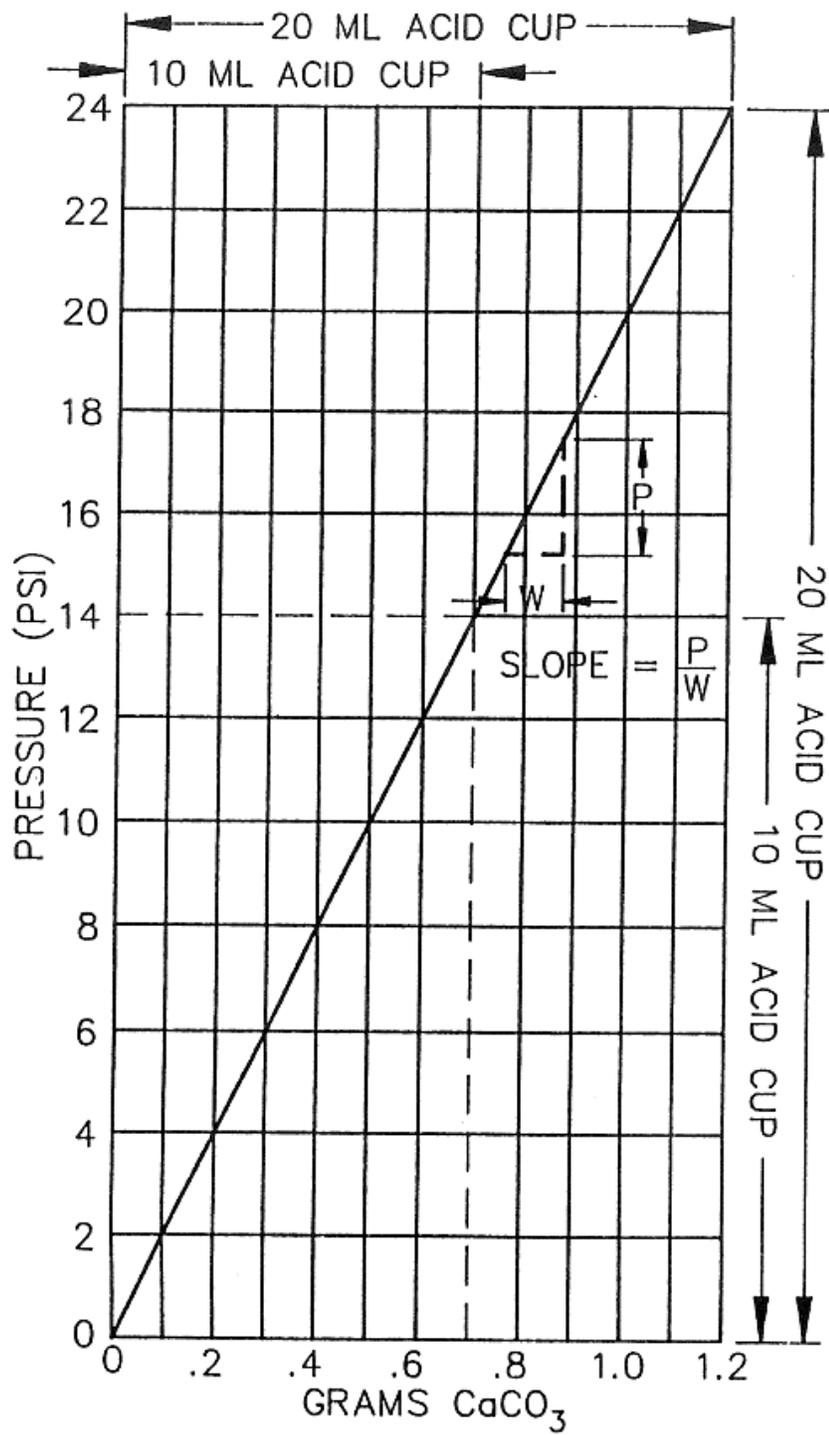

Fig. 4
In the Fann Calcimeter the calcium carbonate and magnesium carbonate are reacted with 10 percent Hydrochloric Acid to form CO₂. This is done in a sealed reaction cell and the pressure build up due to the CO₂ is measured using either a pressure gauge or a pressure recorder. The use of a Calibration Curve, Fig. 4, determined through the use of pure Calcium Carbonate reagent allows the pressure developed to be related to the weight of calcium carbonate in the calibration sample. Several weights of sample are suggested to assure an accurate curve. These tests can be conducted using either the pressure gauge or recorder with the reaction cell. The sample can be weighed on a portable balance (10 mg Precision or better). Refer to Section 5 for calibration procedure.
Before starting the Test Procedure, make sure the equipment is clean and in good operating condition. Verify that a calibration curve is available for the particular equipment to be used. Should a calibration curve not be available, follow the procedures outlined in Section 5 to construct one. For an illustration of this curve Refer to Fig. 4.
Before starting the test procedure for the ASTM Standard Test for Calcium Carbonate Content of Soils, make sure the equipment is clean and in good condition. Refer to Section 5 to verify that a calibration curve is available for the equipment to be used, and that the equipment uses a 20 ml acid cup. Should a calibration curve not be available, follow the procedures outlined in Section 5 to construct one using the 7 point plot. This ASTM test specifies the use of a 1.00 gm test specimen. For an illustration of the 7 point plot Refer to Fig. 4.
- Plot grams of CaCO₃ for each sample verses final pressure reading for each sample on linear graph paper. Draw a straight line averaged through these points. A sample graph for the four point plot and the addition for the 7 point graph is shown in Fig. 4. Larger samples of CaCO₃ cannot be reacted using the 10 ml acid cup.
- Note the linear relation between the pressure and sample size, therefore this curve may be assumed to be a straight line, and its slope will be a constant. As illustrated in Fig. 4 the slope of the curve is 2 psig / .1 gm CaCO₃, or 20 psig / 1.0 gm sample, resulting in a slope of 20. Therefore the Calibration Factor in this case is $1/20 = .05 \times 100$ or 5. This number is the slope or average slope for the particular equipment calibrated. It is a function of the volume of the reaction cell.